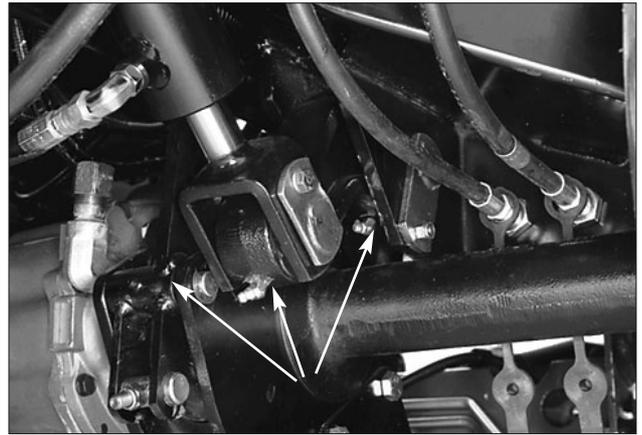

Figure 23
Greasing (Fig. 23–35)
The grease fittings that must be lubricated are: Lift arm pivot (2), lift cylinder (2), brake arm pivots (2) (Fig. 23); brake pivot (1), brake pivots (2) (Fig. 24); traction pedal pivot (1) (Fig. 25); engine to pump drive shaft (2) (Fig. 26 & 27); traction adjuster (1) (Fig. 28); P.T.O. Bearing (Fig. 29).